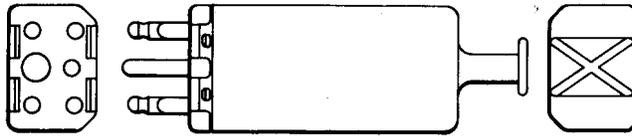

Fig. 5—429F Plug
2.05 **429F and G:** The 429F (Fig. 5) and G (Mfr Disc.) consist of a 5-pin plug base assembled in a housing of insulating material with a distinguishing cross mark on top of the finger grip. The 429F and G plugs are equipped with carbon blocks for 500-volt protection, as well as heat coils for sneak current protection. The 429F and G plugs are used on 302- and 303-type connectors to reverse the tip and ring of a cable pair. The 429F plug has a white body and a black cross.